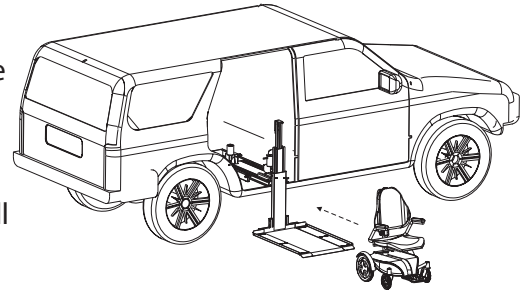

Figure 4-1
2. Drive Chair/Scooter onto Platform. Set your chair or scooter's speed control to slow speed to maneuver easily onto the platform. [Figure 4-1]